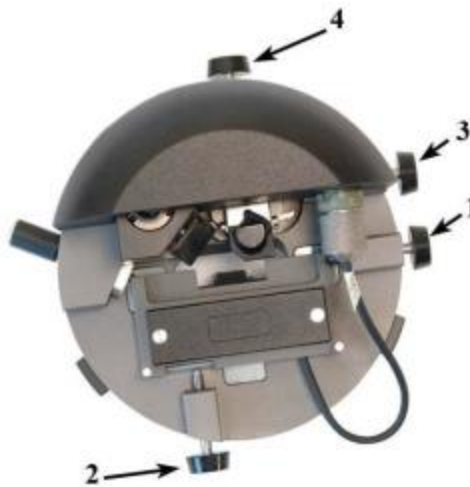
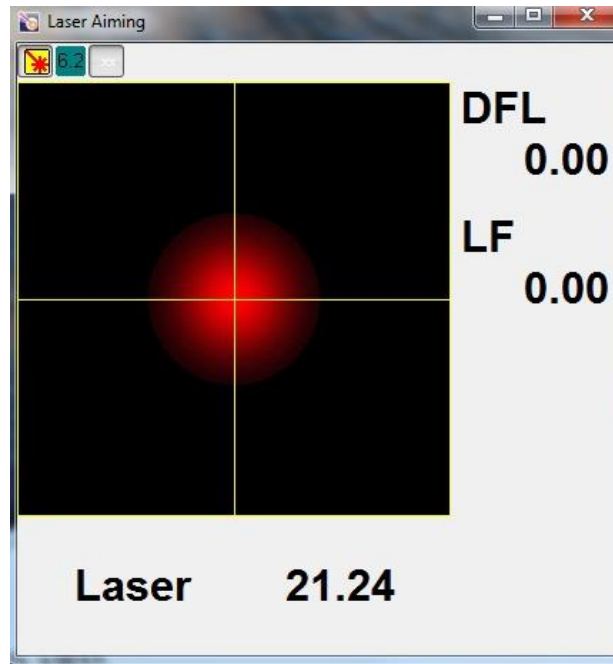

Figure 7: 1 and 2 are for adjusting the probe position, 3 and 4 center the diode
Figure 13: Alignment menu
- The probe position screws are located on the AFM head (Figure 7), the laser remains fixed an the probe is moved to align the laser on the probe.
- Centered the diode using the two diode knobs (Figure 7), use the “DFL” and “LF” values to help center the diode (Figure 13).